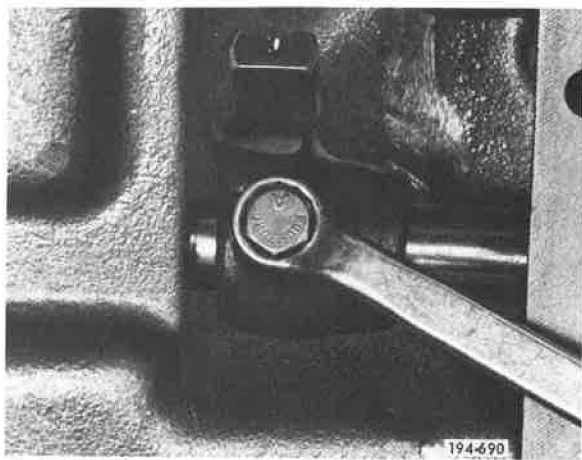

Figure 5-790. Removing Setscrew
2. Remove reverse shifter setscrew. See **Figure 5-790.**